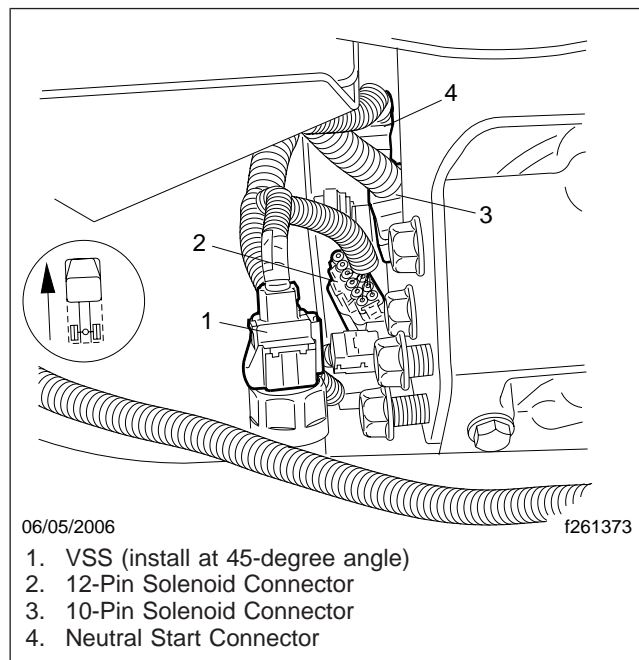

Fig. 13, Electrical Harness Connectors Installed
10. As removed, install the electrical sensors and harnesses, including those listed below. See Fig. 13.